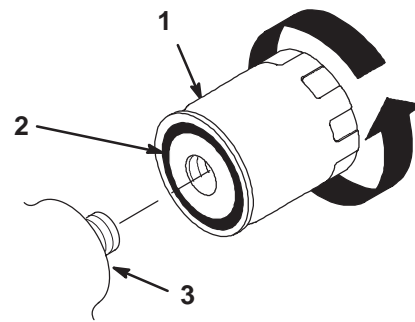

Figure 30
6. Apply a thin coat hydraulic fluid to the rubber gasket on the replacement filter (Fig. 30).
7. Install the replacement hydraulic filter onto the filter adapter. Tighten it clockwise until the rubber gasket contacts the filter adapter, then tighten the filter an additional 1/2 turn (Fig. 30).